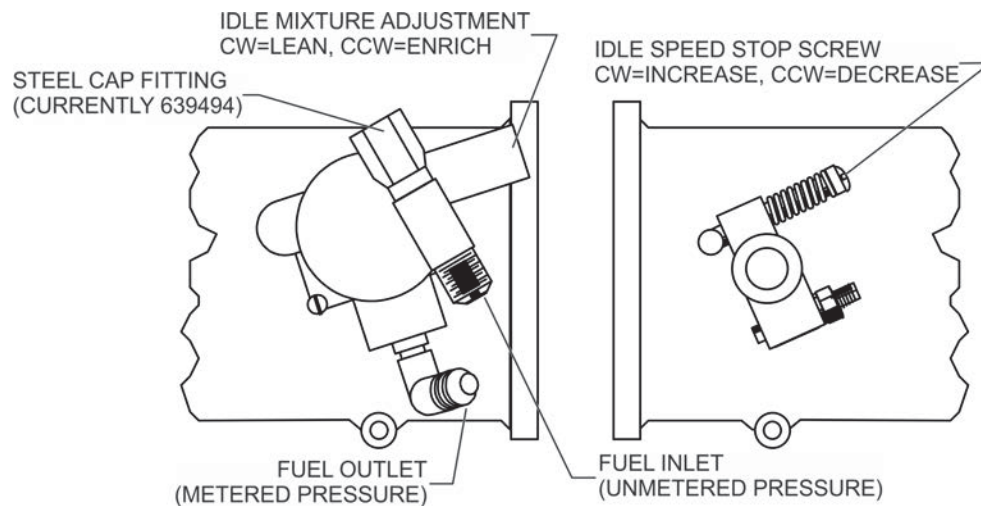

Figure 11. Throttle and Metering Assembly
- a. Identify the correct mixture control assembly that is to be adjusted (see Figure 11 to Figure 13). Make the necessary adjustment and record in the “Remarks” area of the Operational Check form.
6. With the fuel system now set to the specified metered fuel pressure, set the IDLE RPM to the aircraft manufacturer's specified value by adjusting the idle speed stop screw (reference Figure 11 through Figure 13; turn idle speed stop screw clockwise to increase RPM or counterclockwise to decrease RPM).
6. Verify cap assembly (P/N 639494, (see Figure 11)) is correctly installed on the inlet tee fitting on throttle body/metering units. Torque the cap to **135-190 inch pounds** according to Table 1. This cap is cadmium plated and yellow chromate treated. **DO NOT** install any cap other than P/N 639494 on the tee fitting under any circumstance.